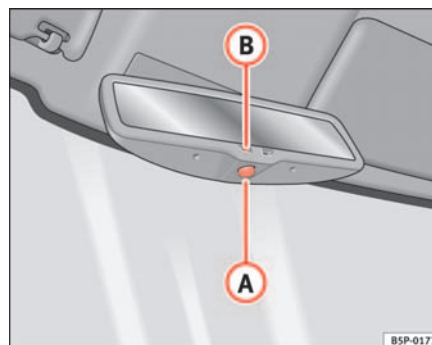

Fig. 89 Automatic anti-dazzle interior mirror.
- Press button **A** ⇒ fig. 89. Warning lamp **B** goes out:
- Press button **A** ⇒ fig. 89. Warning lamp is lit.